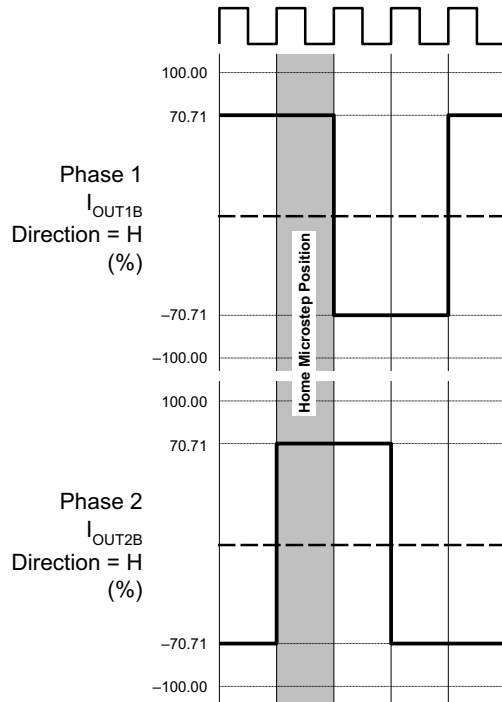

Figure 5. Full Step
**Home Microstep Position.** At power-up, or after a UVLO (undervoltage lockout) condition caused by low voltage on  $V_{DD}$ , the translator in the A3980 resets the motor to the Home microstep position. This corresponds to the 45° position, which is the step where both phase currents are +70%. Referring to table 3, for full-step mode this is step 1, for half-step this is step 2, for eighth-step this is step 5, and for sixteenth-step this is step 9. In table 3 and figures 5 through 8, the Home microstep position is indicated.
mixed decay mode, as shown in figures 5 through 8. As the trip point is reached, the A3980 goes into fast decay mode until the voltage on the RC pin decays to the same level as the voltage applied to the PFD pin. The duration of time that the bridge operates in fast decay mode,  $t_{FD}$  (ns), is estimated by